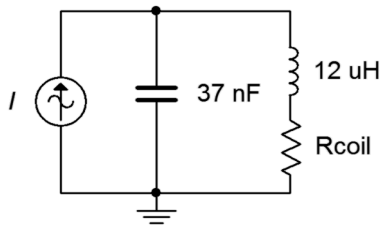

Figure 8.6
20. For the circuit shown in Figure 8.6, determine the resonant frequency, system Q and bandwidth. If the source is 3 volts, determine the inductor and capacitor currents at resonance. Assume the inductor's Q is 30.